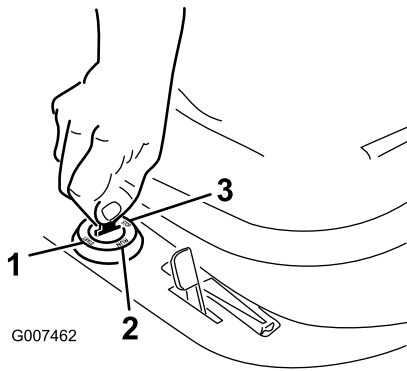

Figure 12
6. Turn the ignition key clockwise and hold it in the Start position (Figure 12). When the engine starts, release the key.
- Turn the ignition key to Stop (Figure 12).